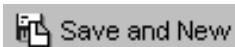

Figure 8-45. Save and New Button
- To save the publication pattern and create a new publication pattern, click the **Save and New** button (Figure 8-45) on the toolbar.